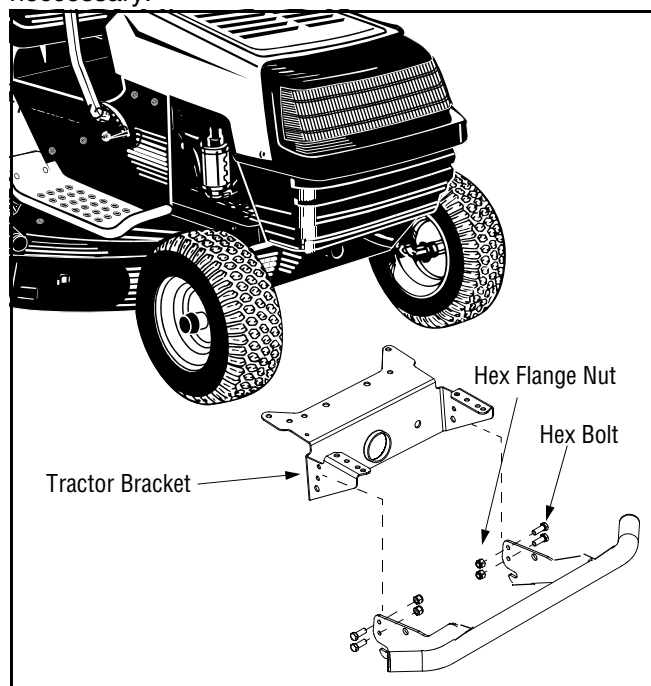

Figure 2
NOTE: The front bracket is exploded from the tractor for clarity in Figure 2.
- To mount the bumper to the tractor, slide the bumper over the front brackets, aligning the two holes in the bumper over the two upper holes in the bracket. See Figure 2.